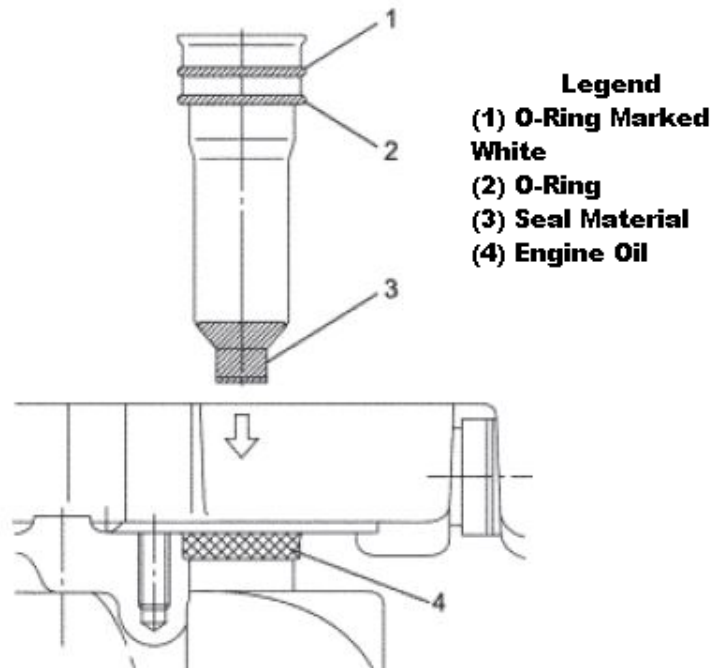

Figure 1. Cylinder Head & Injector Sleeve Detail
- Apply lightly a limited amount of clean engine oil to area 4 in Figure 1.